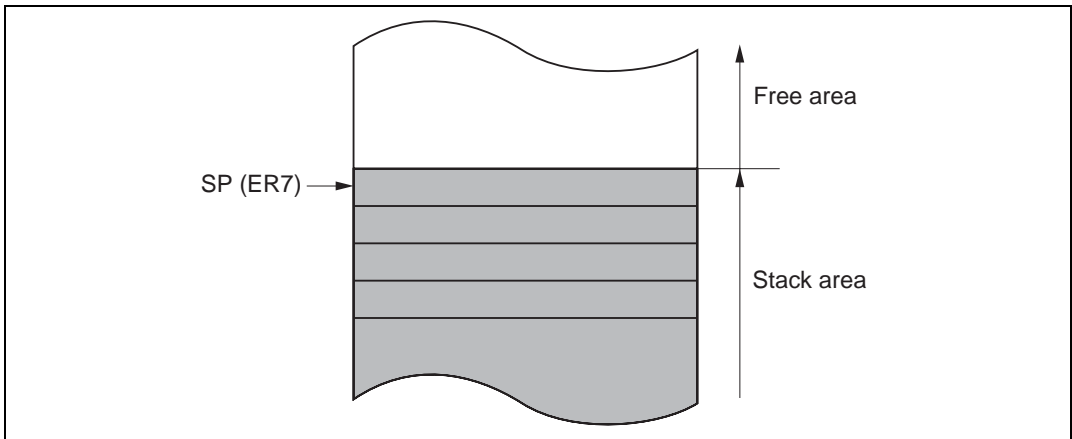

Figure 2.6 Stack
General register ER7 has the function of stack pointer (SP) in addition to its general-register function, and is used implicitly in exception handling and subroutine calls. Figure 2.6 shows the stack.